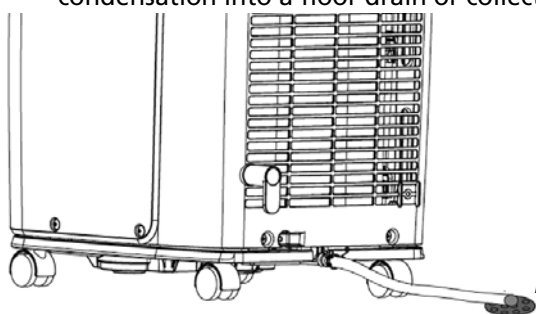

Fig. 23
- 5 To drain the condensation, take the hose out of the holder and drain the condensation into a floor drain or collection tank (see fig. 23).